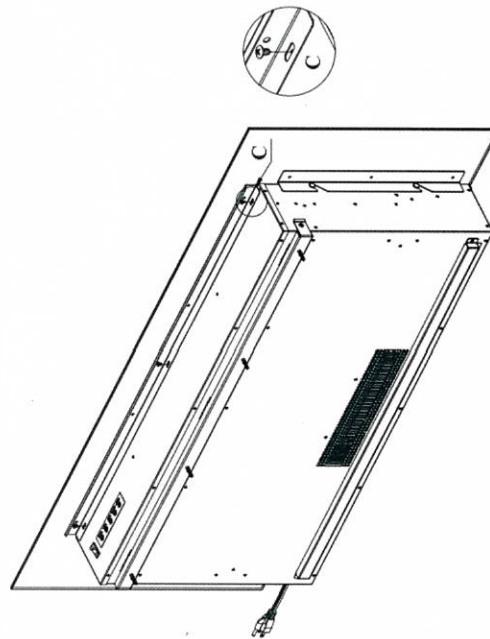
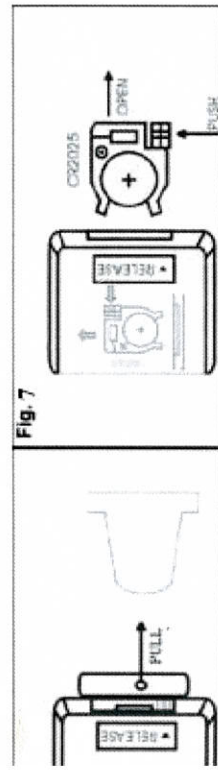

Fig.6
Fig. 7
Fix the tempered glass with 3pcs of 4*8mm screws provided.(Fig.6)
2. operate (see Fig 6. and Fig. 7).